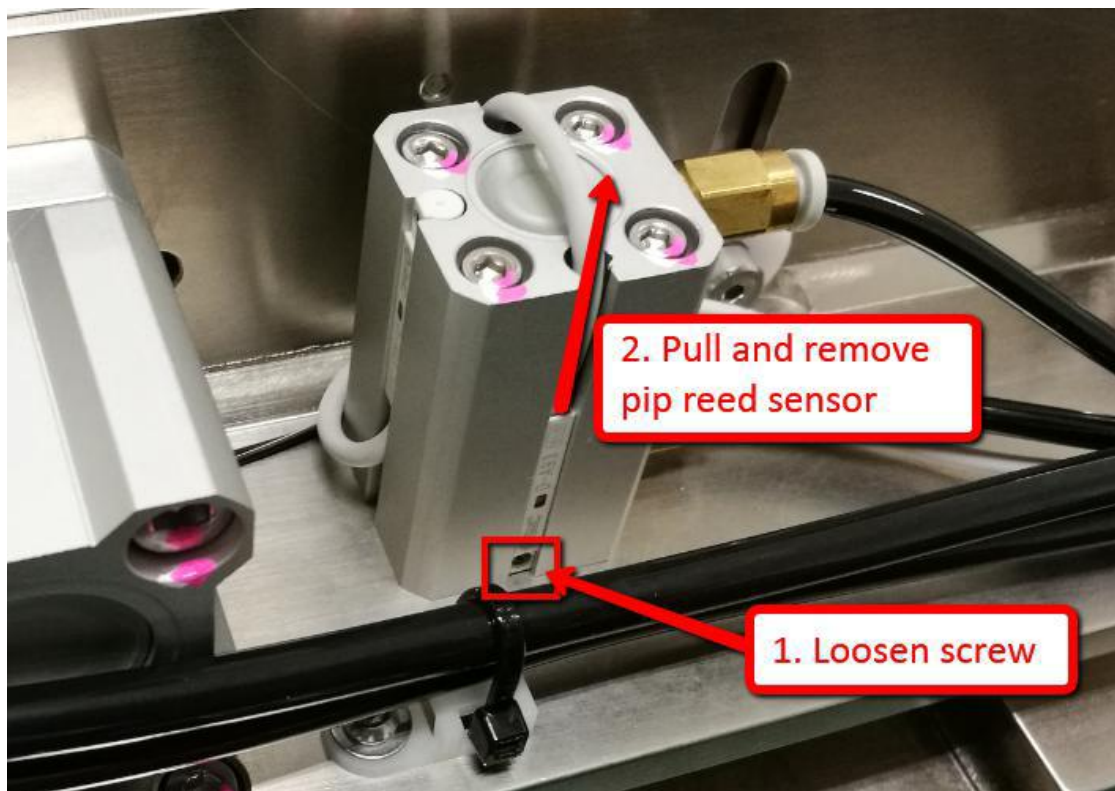

Figure 6 Left PIP In Reed Sensor Removal
7. Loosen screw and remove left PIP In Reed Sensor as Figure 6